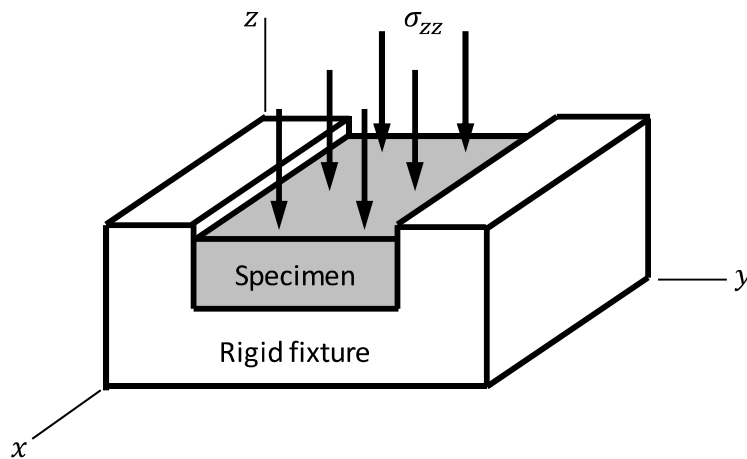

Figure 2: A specimen in a rigid fixture
Given: A specimen is subjected to a compressive stress σ_{zz} and is confined in a rigid fixture so that the specimen cannot deform in the y direction (Fig. 2). However, deformation is permitted in the x -direction. The containing walls are smooth (i.e., frictionless). Assume that the specimen is isotropic, exhibits linear-elastic behavior, and has Young's modulus (E) and Poisson's ratio (ν). Since the specimen is not permitted to deform in the y -direction, $\epsilon_{yy} = 0$. Also, $\sigma_{xx} = 0$ since the specimen is permitted to deform in the x -direction freely.